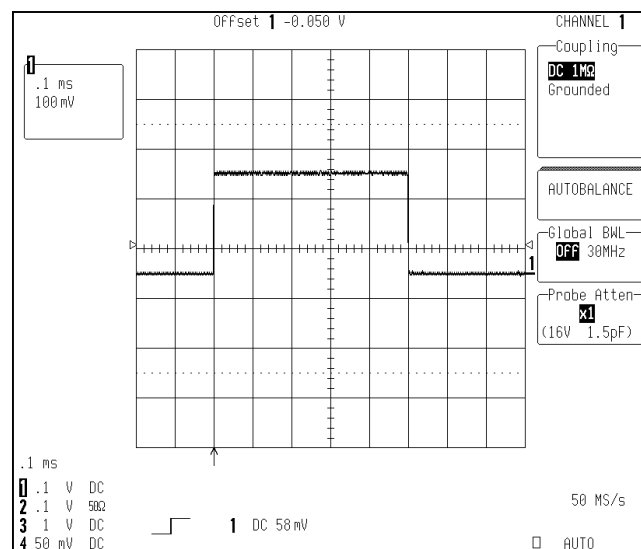

Figure 3. AP034 Probe Control Menu
*displayed above the graticule for a few seconds after a change is made by turning the knob (refer to Figure 3). In prior software versions, the channel **OFFSET** knob adjusted the offset of the oscilloscope input rather than the probe offset. When the AP034 Active Differential Probe is used with LeCroy oscilloscopes with older software versions, it is important that the channel offset (controlled by the channel **OFFSET** knob) remain set to 0.0000 V. Moving the displayed waveform with the channel offset rather than probe offset will not re-center the dynamic operating range of the probe. Offsetting the trace with the oscilloscope channel offset introduces the possibility of erroneous waveforms that result from overloading the probe.*